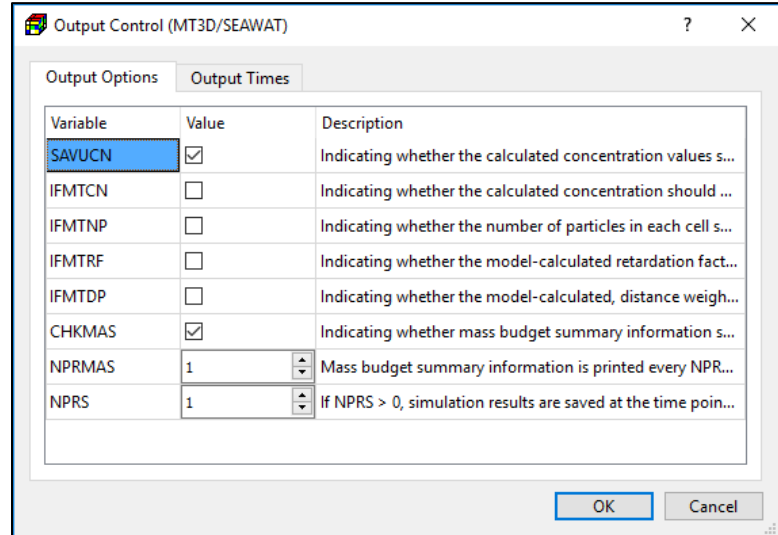

Figure 105. The Output Options tab of the Output Control (MT3D/SEAWAT) dialog box
1. **Output Options Tab** (Figure 105)